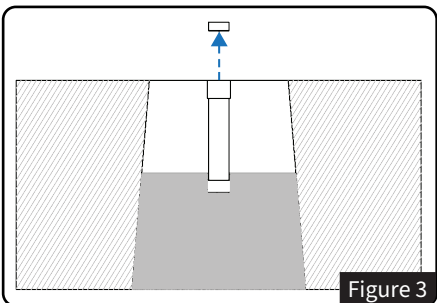
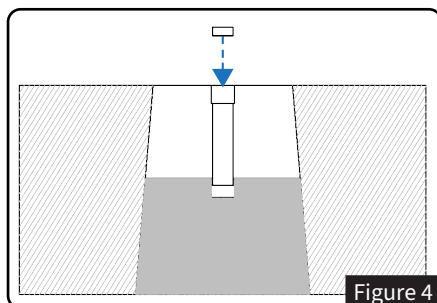

Figure 3
Figure 4
- Insert **Anchor Sleeves (Part A)** into the concrete. See *Figure 3*.
- Replace **Anchor Sleeve Caps (B)**.
- Fill remaining space with concrete. See *Figures 4 & 5*.